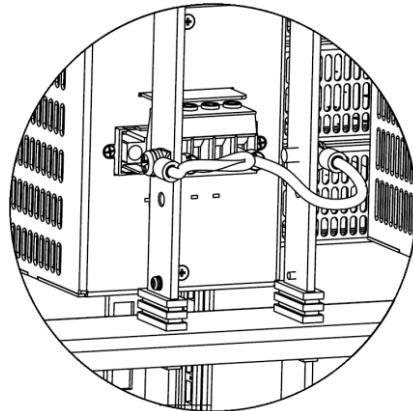

Figure 4-13: power supply output screw connection
1. Before first operation, ensure that the M6 screws that connect power supply output to bus-bars are not loss (general tightening Torque is 45~48 lbf.inch) – refer to Figure 4-13.